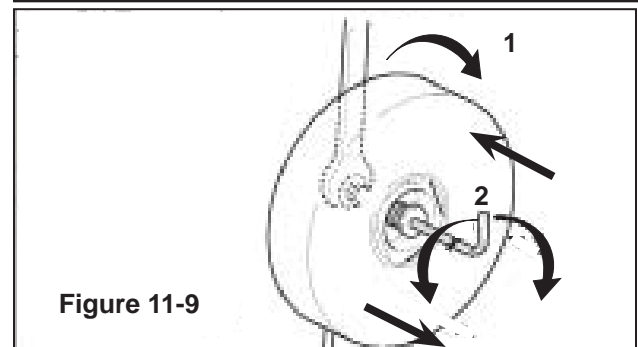

Figure 11-9
Check the centering of the tape on the rollers of the taping unit. If necessary unscrew the nut 1 and adjust the screw (2) (Figure 11-9).